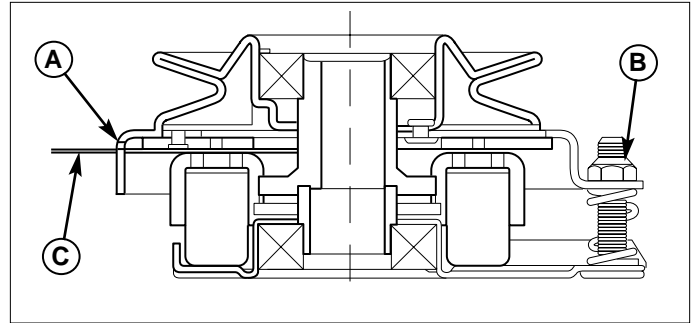

Figure 36. Adjust PTO Clutch
3. Insert a .016" - .018" (0,40mm - 0,45mm) feeler gauge (C) through each window, positioning the gauge between the rotor face and the armature face as shown in Figure 36.